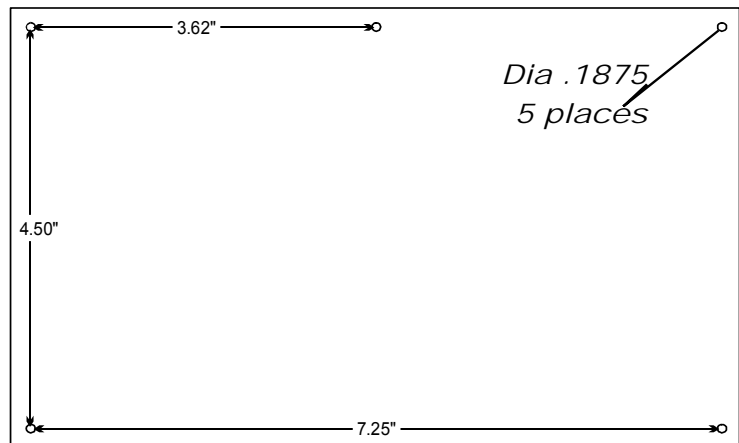

FIG. 3-15 BCD TERMINATION BOARD INSTALLATION DRILL TEMPLATE
- Step 2. Use the measurements shown in Figure 3-15 BCD Termination Board Installation Drill Template Illustration or P/N 0596-0117 drill template to mark five mounting holes. (See Fig. 3-15)